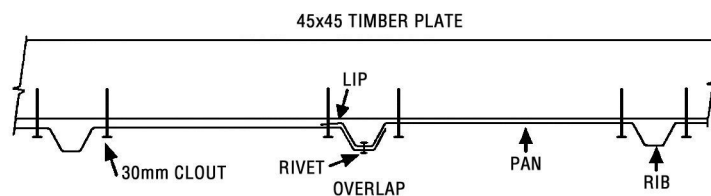

fig. 1
When fitting Gable End Sheets ensure they overlap correctly (**fig 1**).
Step 2: Back Wall: Start at the right hand side. Position the first Wall Sheet with the LIP on the right hand side. Ensuring the LIP is flush with the side of the Studs and the top of the Wall Sheet is flush with the top of the Top Plate, tack in place. Position the next Wall Sheet with the LIP on the right hand side. Overlap as shown in (fig 1). Ensuring Wall Sheet is flush with top of Top Plate, tack in place. Repeat with remaining sheets.